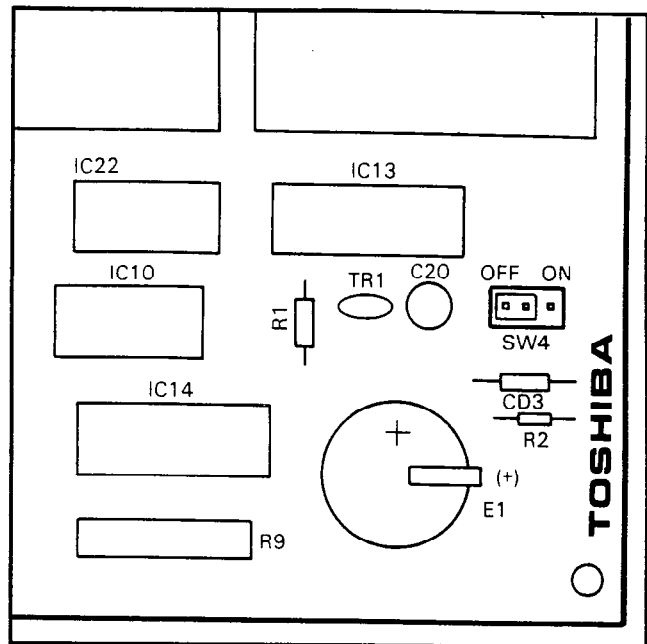

FIGURE 1—VCCU BATTERY STRAP
02.05 Whenever storing or shipping a VCCU, always ensure that the battery strap is in the OFF position (see Figure 1).